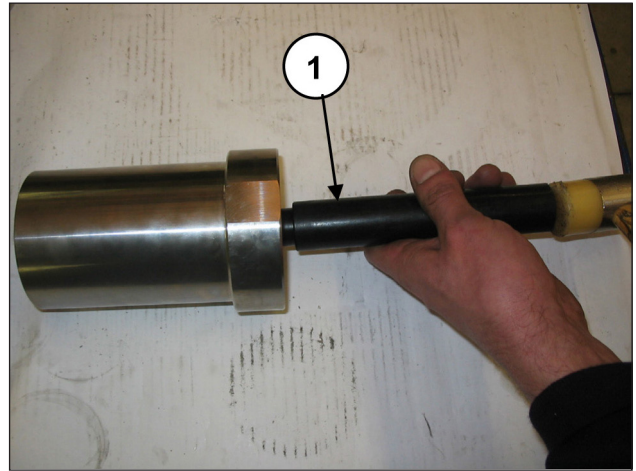
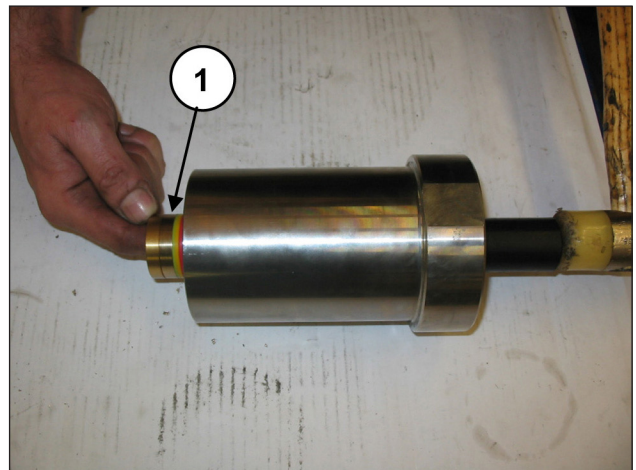

Fig. 114
Fig. 115
With the liner separate from the seal support and with the special plastic pin (pos. ①, Fig. 114) have the HP (high pressure) pack come out (pos. ①, Fig. 115).
**At each disassembly, the HP packing (pos. ①, Fig. 115) must be replaced.**